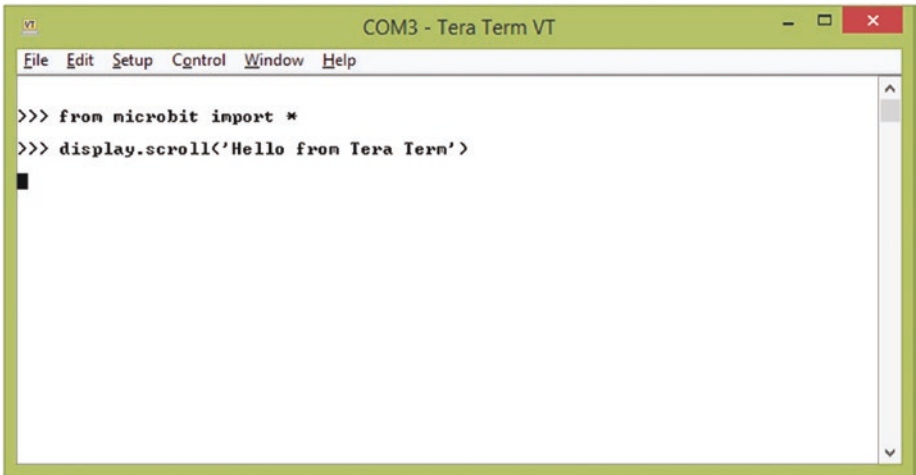

Figure A-8. *Writing code on the Tera Term window*
3. Next, type the following line and press the Enter key again (see Figure A-8).